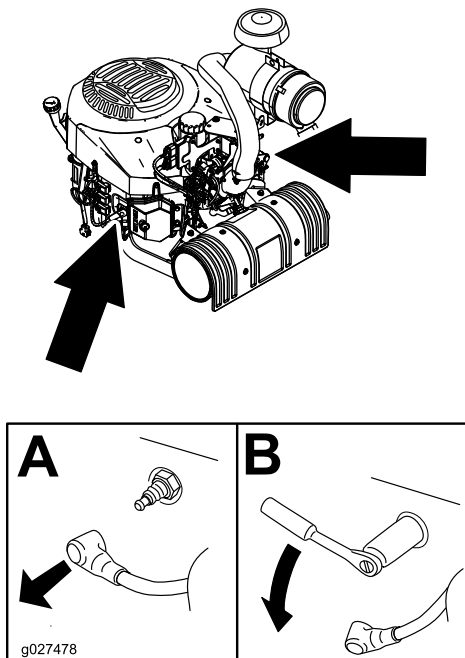

Figure 36
3. Locate and remove the spark plug(s) as shown in Figure 36.